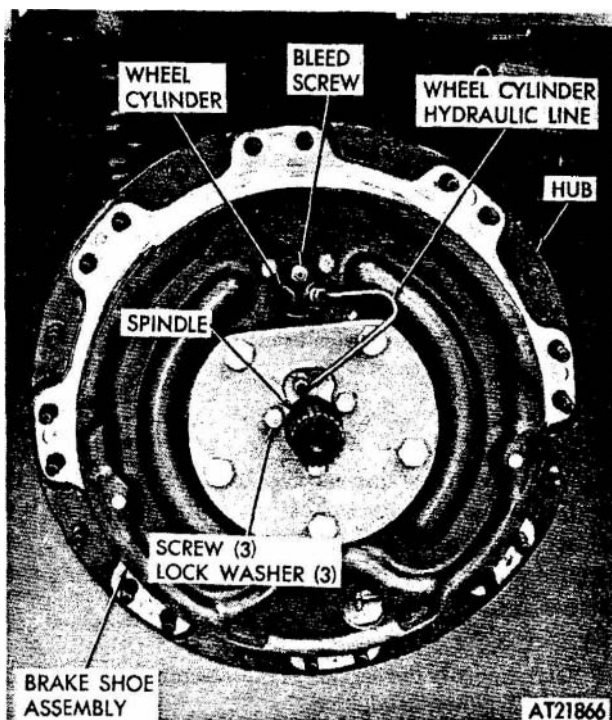

Figure 2-213. Brake shoe assembly, removal and installation.
(6) Remove drum from hub by alternately turning down on the four jacking screws. Discard "O" ring.
(7) Disconnect tube assembly from wheel cylinder and spindle (fig 2-213).
(8) Remove brake assembly from spindle by removing three screws and lock washers (fig 2-213).